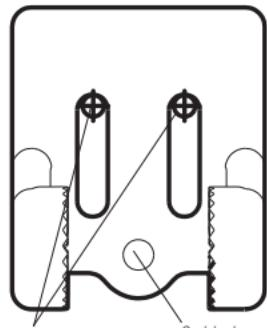

Figure 15
3. Continue to hold the bracket on the transom of the boat, and use a pencil or marker to mark where to drill the two mounting holes. Mark the drill holes near the top of each slot, making sure that your mark is centered in the slot (Figure 15).